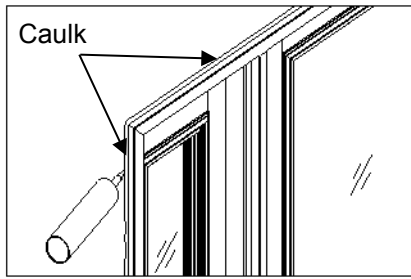
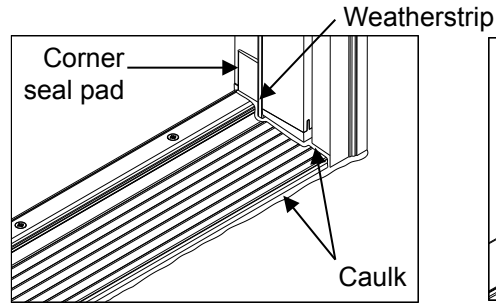
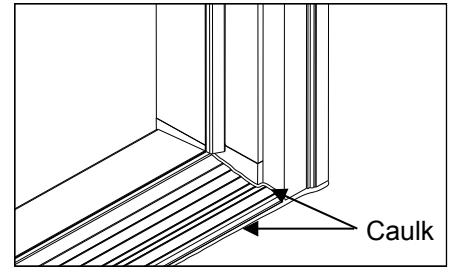

Figure 5a
Figure 5b (in-swing)
Figure 5c (out-swing)
- 5 IMPORTANT:** To prevent moisture from getting inside the siding wall, completely caulk around the brickmolds per Figure 5a. For in-swing doors, install two corner seal pads (included in the installation kit) at each of the jamb bottoms of an active door per Figure 5b. For a double door system, verify that a corner seal pad is installed at the bottom of the active door side of an astragal. The corner seal pad should be tucked underneath the weatherstrip. Caulk at the intersection of the jambs, brickmolds, threshold and floor. For out-swing doors, also caulk at the intersection of the jambs, brickmolds, threshold and floor per Figure 5c.